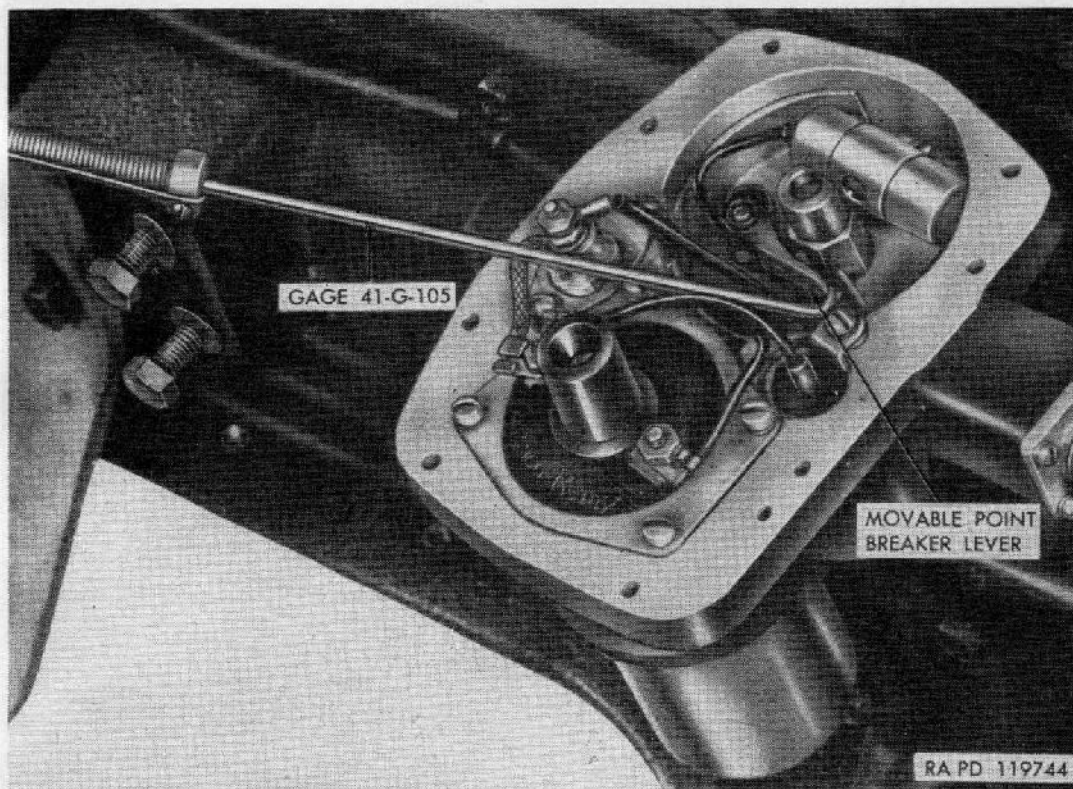

Figure 73. Checking distributor-breaker-lever-spring tension.
- (a) *Movable-point-breaker-lever-spring tension* (fig. 73). Check movable-point-breaker-lever-spring tension with